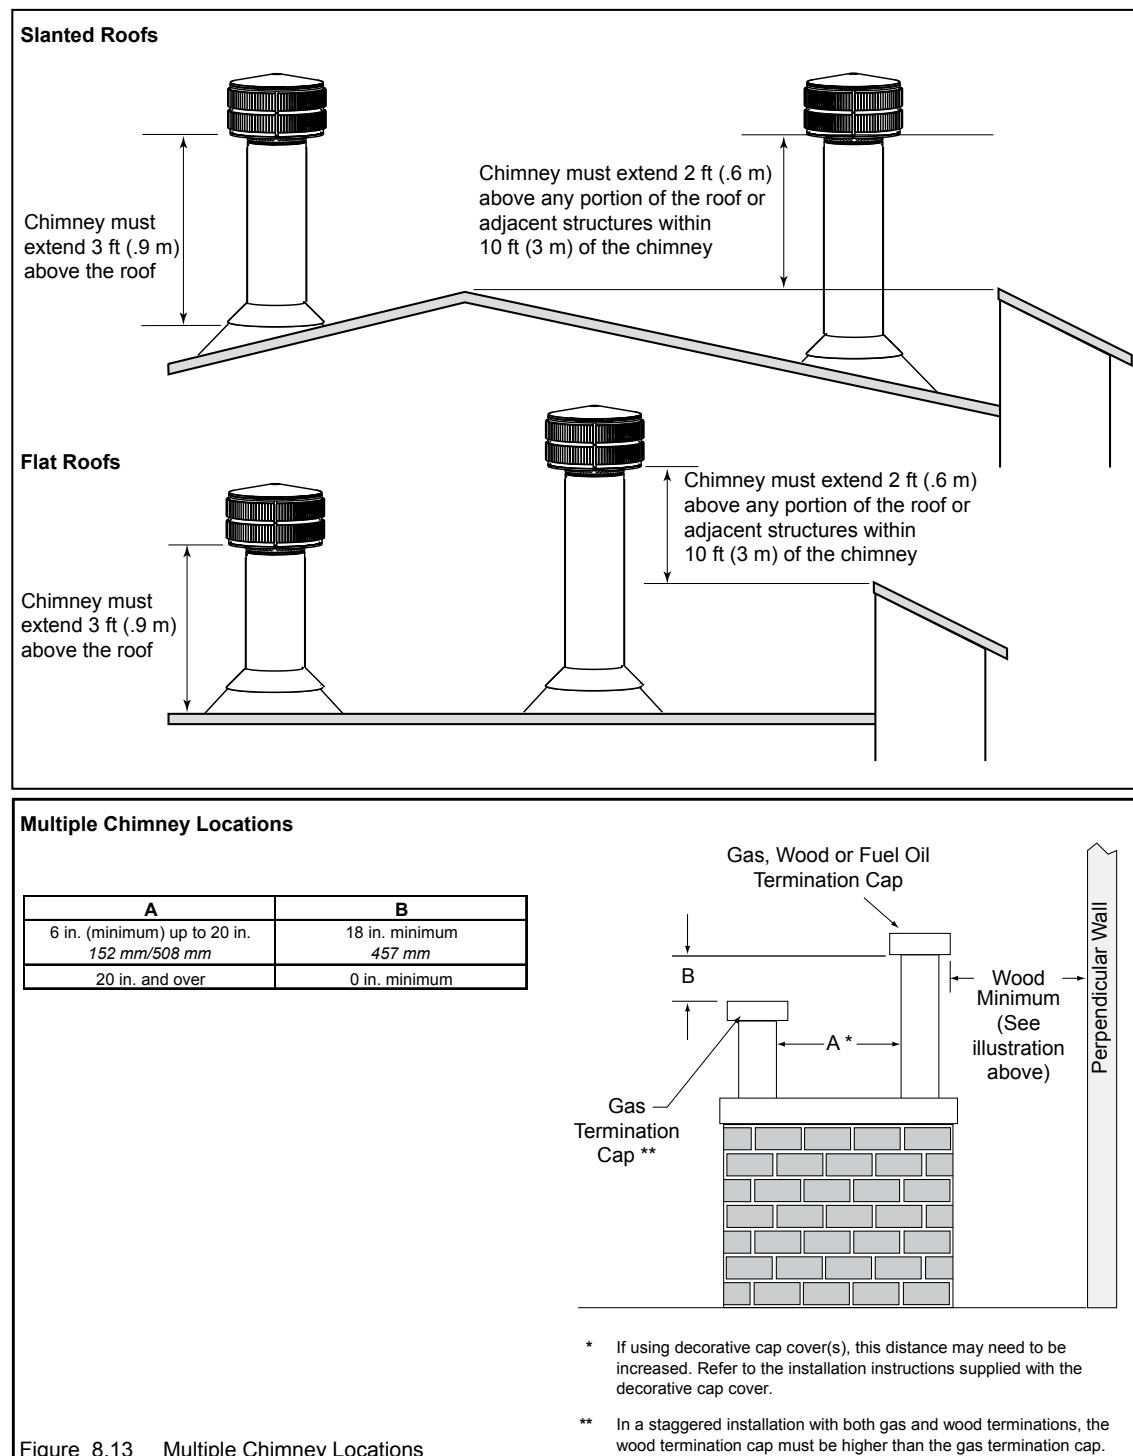

Figure 8.13 Multiple Chimney Locations
- The bottom of the termination cap must be at least 3 ft (.91 m) above the roof AND at least 2 ft (.61 m) above any portion of roof within 10 ft (3.05 m) as shown in Figure 8.13.
- The distance required between caps is shown in Figure 8.13.